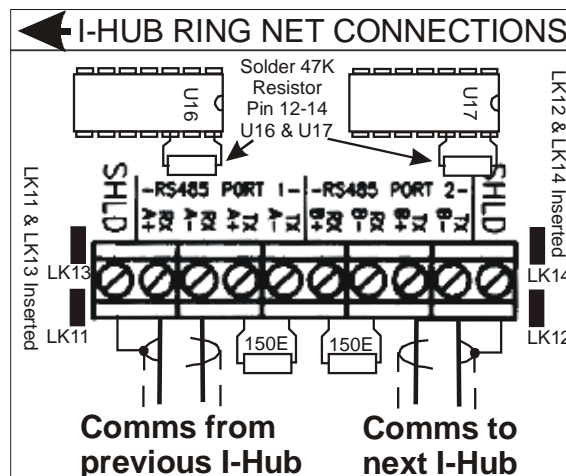

Figure 3.9.1 – Terminating the RS485 Bus in Ring Mode
To terminate the RS485 ports on the I-HUB operating in ring mode, fit two 150 ohm resistors as shown in Figure 3.9.1. The I-HUB module must also be fitted with two 'bias' resistors by connecting a 47k resistor from pin 12 to pin 14 of each of U16 and U17 (2 \* 47k resistors per I-HUB).
- If only ECM Port 1 and 2 type RS485 ports (e.g. I-HUB, QE90, PMB) are connected and no RS485 converter boards (PA0711, PA0712, PA0773), also add the 2 x 47k resistors to the ECM as per Figure 3.9.1.